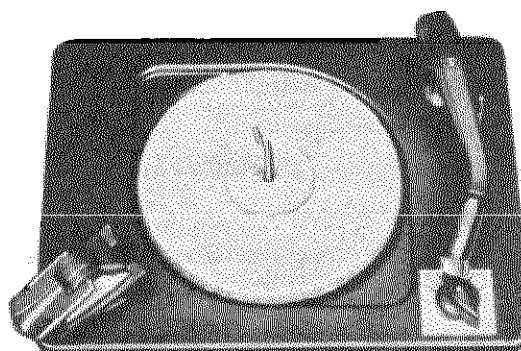

Figure 4—CHANGER, RECORD SHELF IN 12" POSITION.
8. Turn the record shelf fully clockwise to the 12" position, as shown in figure 4.